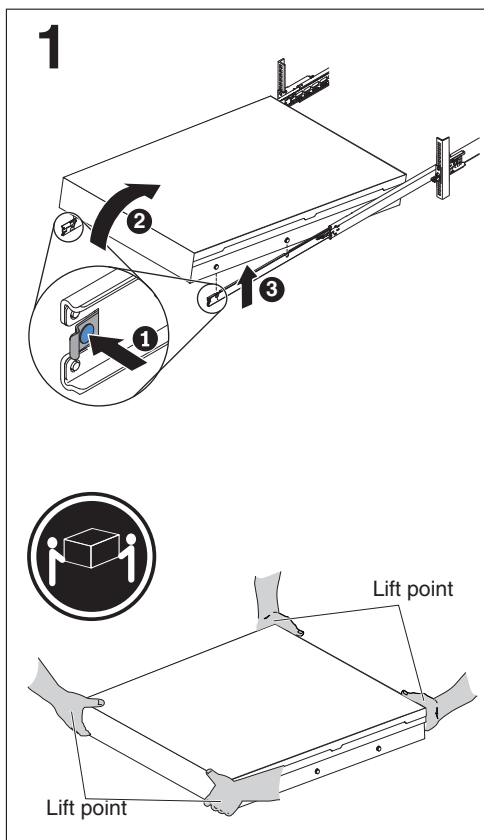

Figure 88. Removing the SAN Volume Controller 2145-DH8 from the rack
2. Optionally remove the node from the rack. Pull the locking levers (**1** in Figure 88) forward, and pull the server forward along the slide rails.